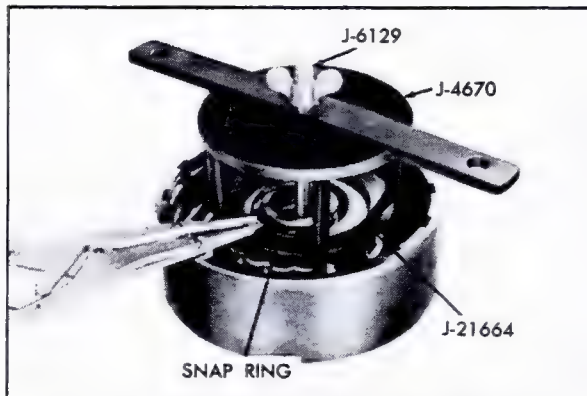

Fig. 7-83 Removing and Installing Direct Clutch Housing Snap Ring
5. Using Clutch Spring Compressor, J-4670, Rear Clutch Spring Compressor, J-6129, or an arbor press, and Adapter, J-21664, Fig. 7-83, compress spring retainer and remove snap ring with Snap Ring Pliers, J-8059 or J-5586.
6. Using Clutch Spring Compressor, J-4670, Rear Clutch Spring Compressor, J-6129, or an arbor press, and Adapter, J-21664, Fig. 7-83, compress spring retainer, being careful that retainer does not get caught in snap ring groove, and install snap ring with Snap Ring Pliers, J-8059 or J-5586. Remove tools.